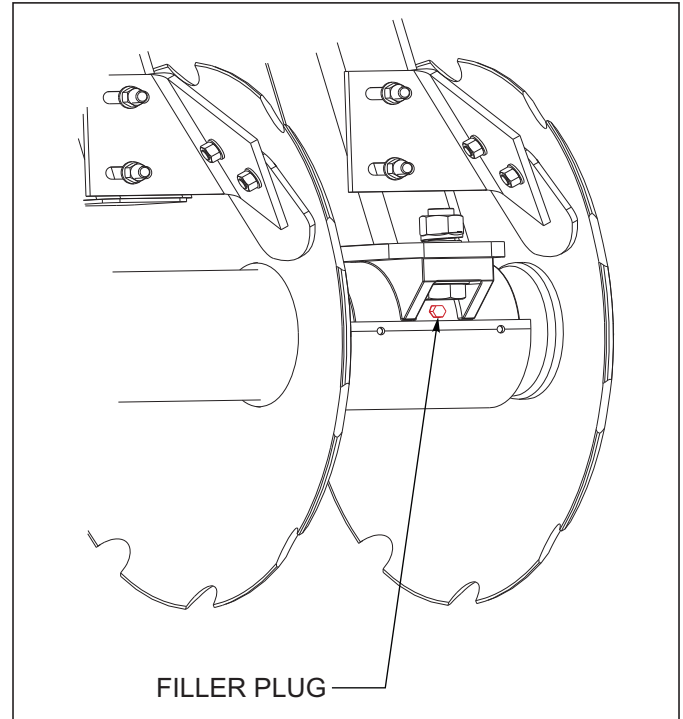

Figure 3-1: Filler Plug Location
5. To check oil level in bearings, remove the filler plug on the center of the housing **See Figure 3-1** and check the level at the bottom of the filler plug opening. If oil begins to leak slowly, then the reservoir is full. Immediately replace the plug. If oil runs out freely, let it drain into the drain pan until it seeks its own level, **which is just at the bottom of the filler plug opening**. If the oil level is below the level of the filler plug, bend a short length of metal wire and insert into the filler plug opening. Pull the wire out and note the oil level. If the level is below ½" below filler plug opening, add SAE 90 mineral gear oil to bring it up to the recommended level. Check the plug for damage to the threads. Apply thread sealer on filler plug threads and replace the filler plug into the housing.
7. To replace oil if bearing is still fastened to frame, remove the filler plug on the center of the housing **See Figure 3-1**. Use a suction pump to draw out the oil by hand from the filler plug opening. Inspect old oil for any metal flakes or shavings that could be caused by excessive bearing wear. Using SAE 90 mineral gear oil, fill housing with oil to the recommended level. Check the plug for damage to the threads. Apply thread sealer on filler plug threads and replace the filler plug into the housing.
9. **Recommended:** To replace oil if bearing is free from frame, remove the filler plug on the center of the housing **See Figure 3-1**. Rotate the bearing assembly until the filler plug opening is pointed downward and allow oil to drain into drain pan. Inspect old oil for any metal flakes or shavings that could be caused by excessive bearing wear. Using SAE 90 mineral gear oil, fill housing with oil to the recommended level. Check the plug for damage to the threads. Apply thread sealer on filler plug threads and replace the filler plug into the housing.